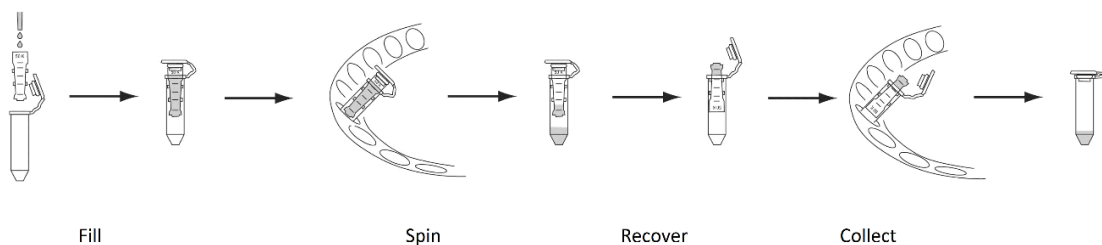

Figure 2. Antibody concentration step
1. Add 500 μl of ddH₂O to the small antibody concentrator and cap the device as shown in Figure 2.
2. Centrifuge at 5000 \times g for 6 minutes. Make sure that **the cap strap and one membrane panel of the concentrator face the center of the rotor** (Fig. 2).
5. Centrifuge at 5000 \times g for 2-6 minutes. Make sure that **the cap strap and one membrane panel of the concentrator face the center of the rotor** (Fig. 2).
7. Invert the small antibody concentrator into the collection tube as shown in Figure 2.